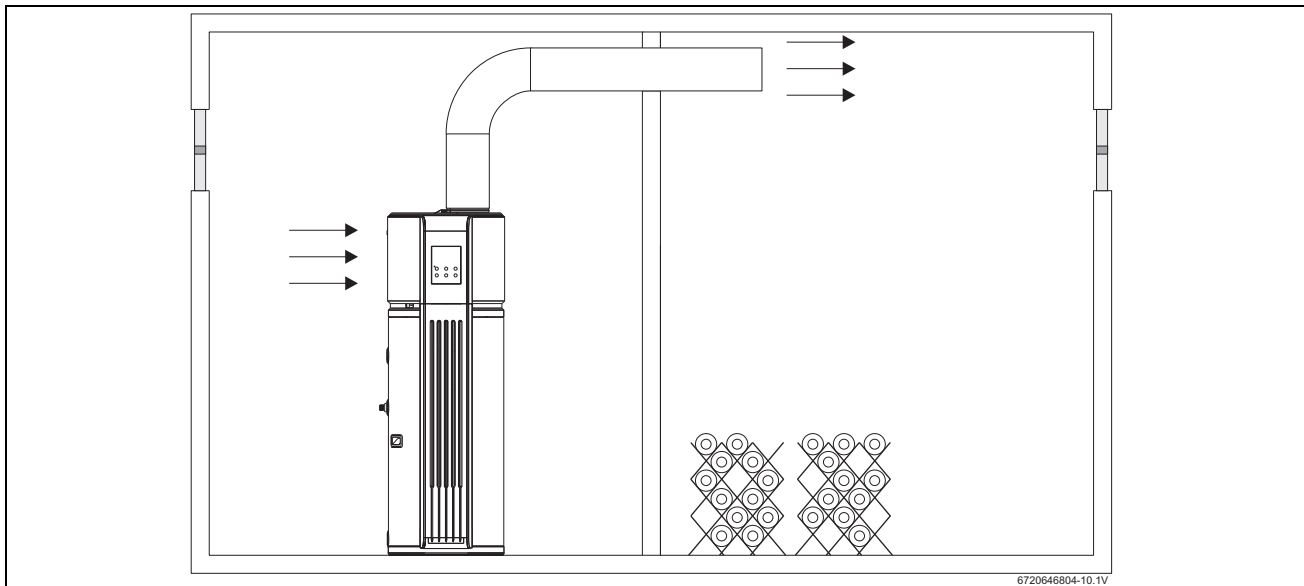

Fig. 12
3.6.2 Cooling in the recirculating air mode (Fig. 12)